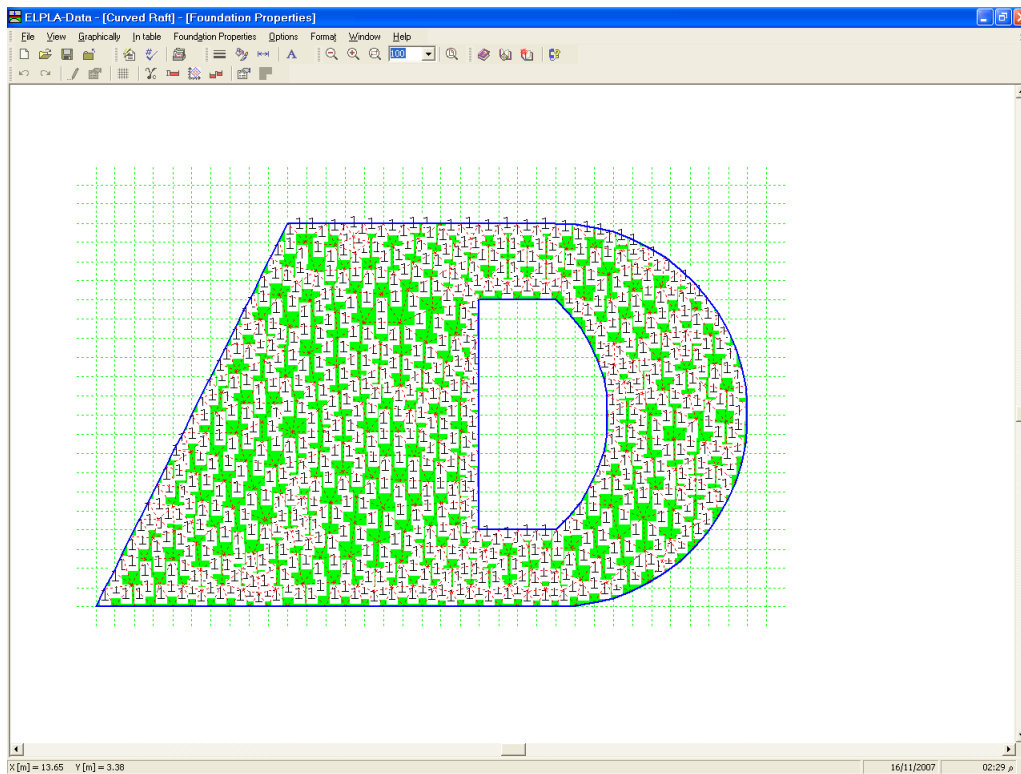
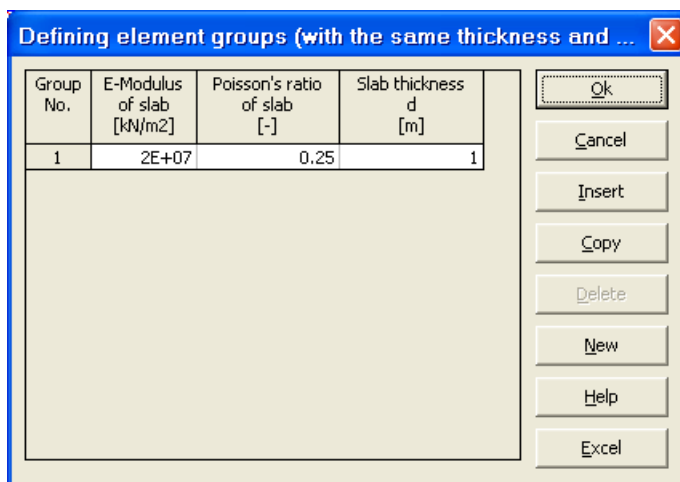
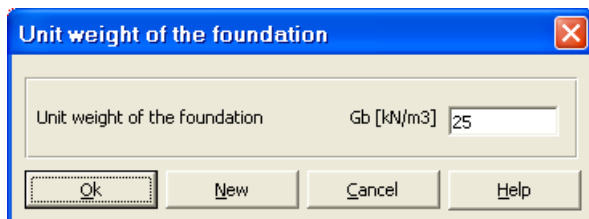
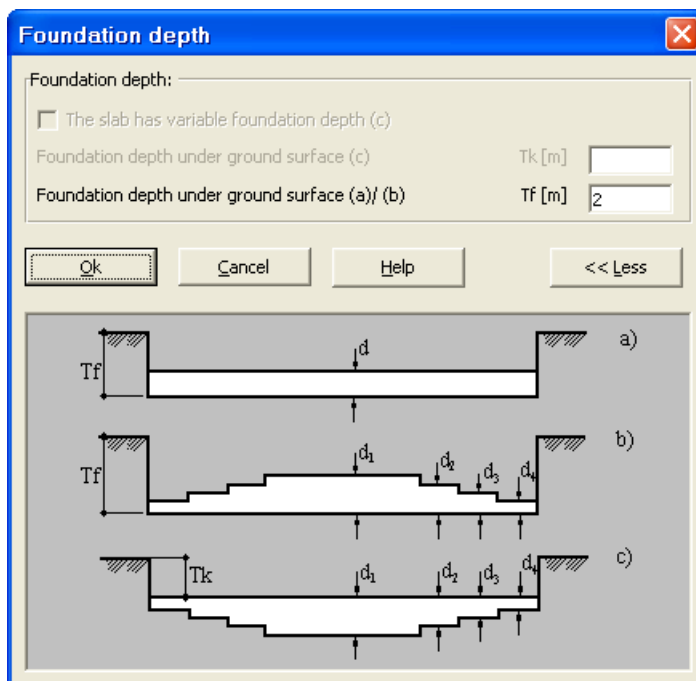

Figure 10-26 "Foundation properties" embedded program
Figure 10-27 "Defining element groups" list box
Figure 10-28 "Unit weight of the foundation" dialog box
Figure 10-29 "Foundation depth" dialog box
To define the foundation properties, choose "Foundation properties" command from "Data" menu of *ELPLA-Data*. The following embedded program in Figure 10-26 appears with default foundation properties. The data of foundation properties for the current example, which are required to define, are foundation material and foundation thickness. Any other data corresponding to foundation properties in the program menus are not required. Therefore, the user can take these data from the default foundation properties.
- Choose "Element groups" command from "In Table" menu in the window of Figure 10-26. The following list box in Figure 10-27 with default data appears. To enter or modify a value in this list box, type that value in the corresponding cell then press "Enter" key. In the list box of Figure 10-27, enter E-Modulus of the foundation, *Poisson's* ratio of the foundation and foundation thickness
- Choose "Unit weight of the foundation" command from "Foundation properties" menu in the window of Figure 10-26. The following dialog box in Figure 10-28 with a default unit weight of 25 [kN/m³] appears. Let the default value as written in the edit box "Unit weight of the foundation"
- Choose "Foundation depth" command from "Foundation properties" menu in the window of Figure 10-26. The following dialog box in Figure 10-29 appears
- Choose "Save foundation properties" command from "File" menu in Figure 10-26 to save the foundation properties
- Choose "Close foundation properties" command from "File" menu in Figure 10-26 to close the "Foundation properties" embedded program and to return to the main window of *ELPLA-Data*